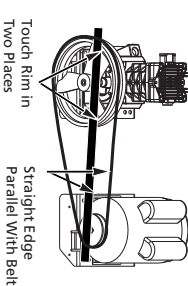

Figure 12
4. To align belt, lay a straight edge against the face of the flywheel, touching the rim at two places (See Figure 12).